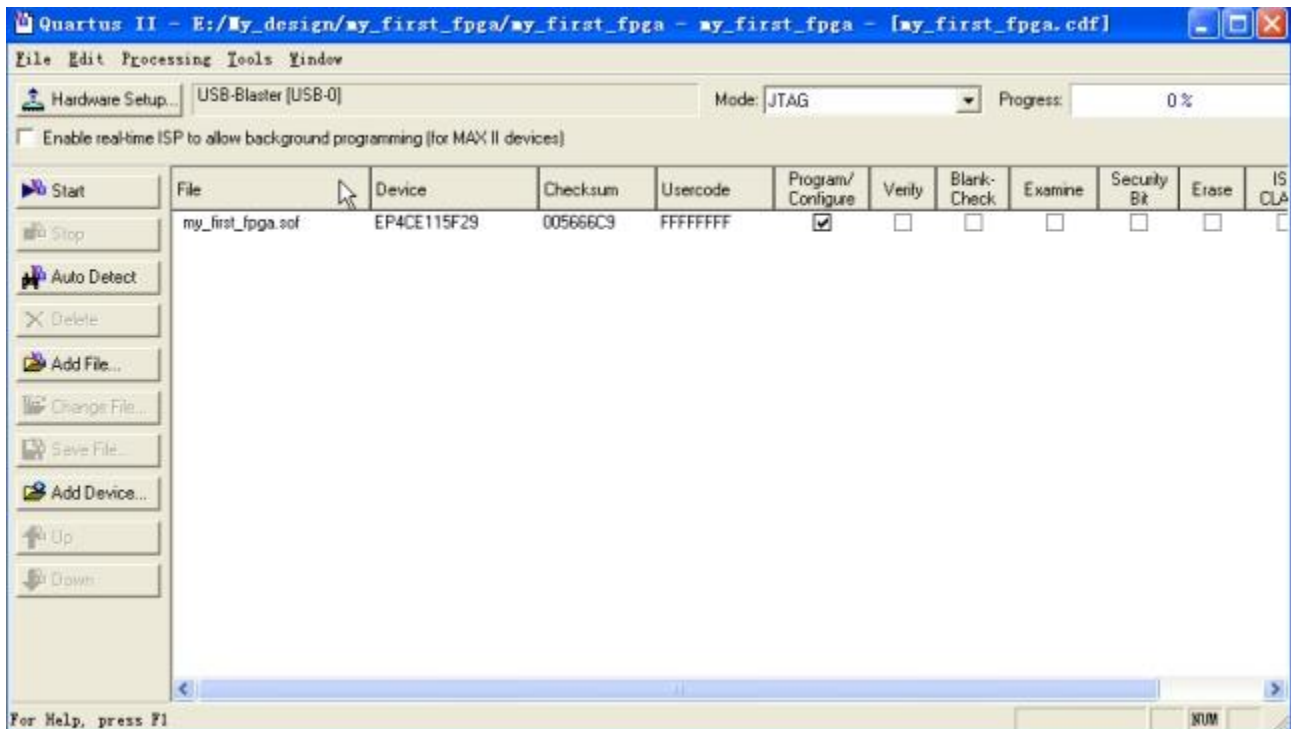

Figure 4-3 Programmer Window
1. Choose Tools > Programmer. The Programmer window opens. See Figure 4-3.